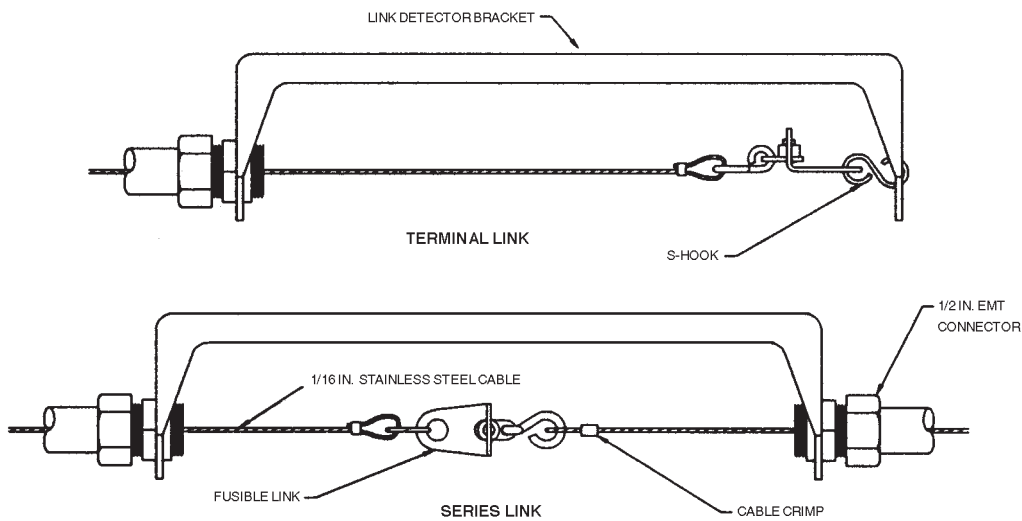

Figure 2-9a. Model FLK-1 Fusible Link.
The Model FLK-1 fusible link kit includes a 10 in. (25.4 cm) steel bracket, two (2) 1/2 in. EMT connectors, two (2) cable crimps, and two (2) “S” hooks. Fusible links must be ordered separately. See **Figure 2-9a**.